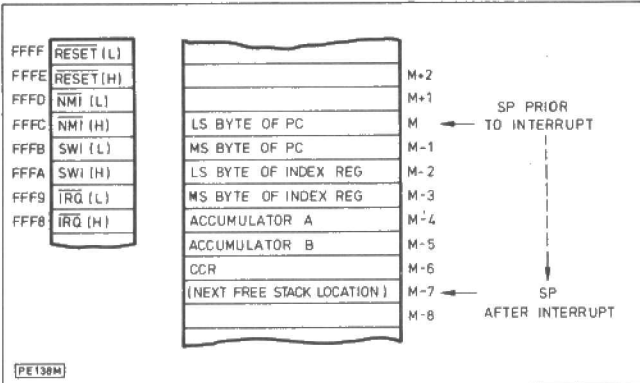

Fig. 4.4. Left, location of interrupt service routine addresses. Above, stack contents after an interrupt
The 6800 system is designed to look for the start address of the various interrupt service routines at defined locations in the highest memory addresses (between FFF8 and FFFF). The fixed arrangement of memory and start addresses assumed by the CPU is shown in Fig. 4.4. Thus, following the detection of a logic 0 level on the IRQ input, the CPU completes the execution of the current instruction, and then tests the interrupt mask (the I bit in the Condition Codes Register (CCR)). If the mask bit is set to logic 1, the interrupt is ignored, and the program continues execution. If the mask bit is clear, the interrupt sequence proper then begins.
The CPU status is first pushed onto the stack. This uses 7 bytes to save the contents of the Program Counter (PC), the Index Register (IR), the two accumulators (A and B), and the CCR, as shown in Fig. 4.4. The next step is to set the interrupt mask, thereby preventing any subsequent interrupts from interrupting the service routine currently in progress. The CPU then fetches the start address for the IRQ interrupt service routine from locations FFF8 and FFF9, and processing continues from the address indicated. This technique of getting the start address from locations permanently assigned by the CPU is known as *vectoring*, and is widely used by micros.